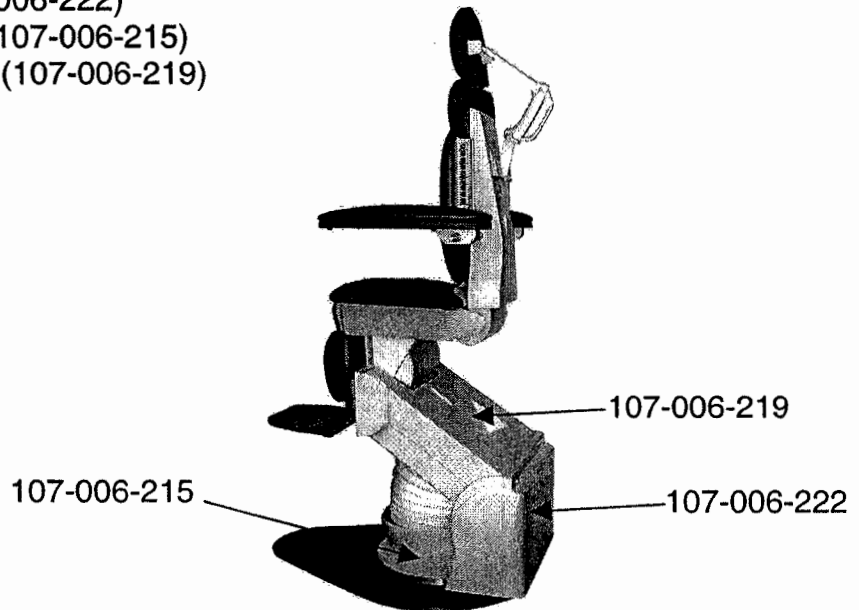

Figure 1
2. Remove the following covers in the order listed. To access the screws, use a flat blade screwdriver to remove the screw caps. (see Figure 1 for cover location);